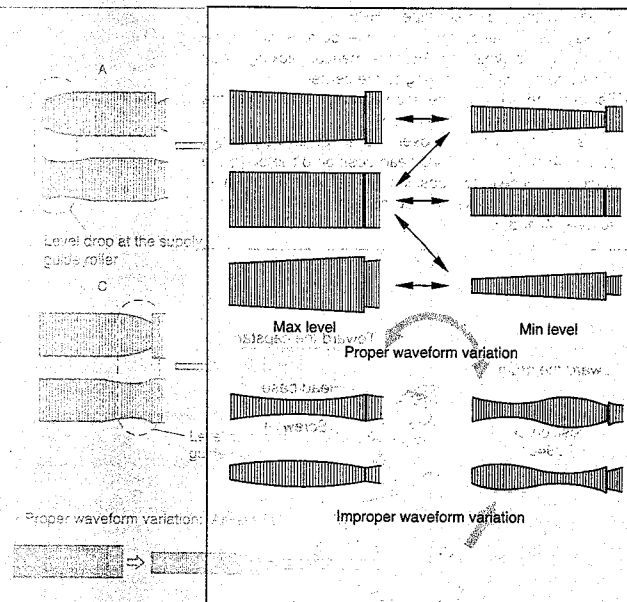

Fig. 2-4-1
- (1) Connect the oscilloscope to TP106(PB FM/COL) of the main board assembly and to TP111(D.FF) of the main board assembly for external sync connection.
- (2) Playing the alignment tape MHPE, observe the FM waveform.
- (3) Press the channel buttons (+) and (-) buttons simultaneously during playback to enter the manual tracking mode (This also brings tracking to the center.)
- (4) Make sure that there is no significant level drop of the FM waveform caused by the tracking operation, with its generally parallel and linear variation ensured. Perform the following adjustments when required. (Fig.2-4-1)